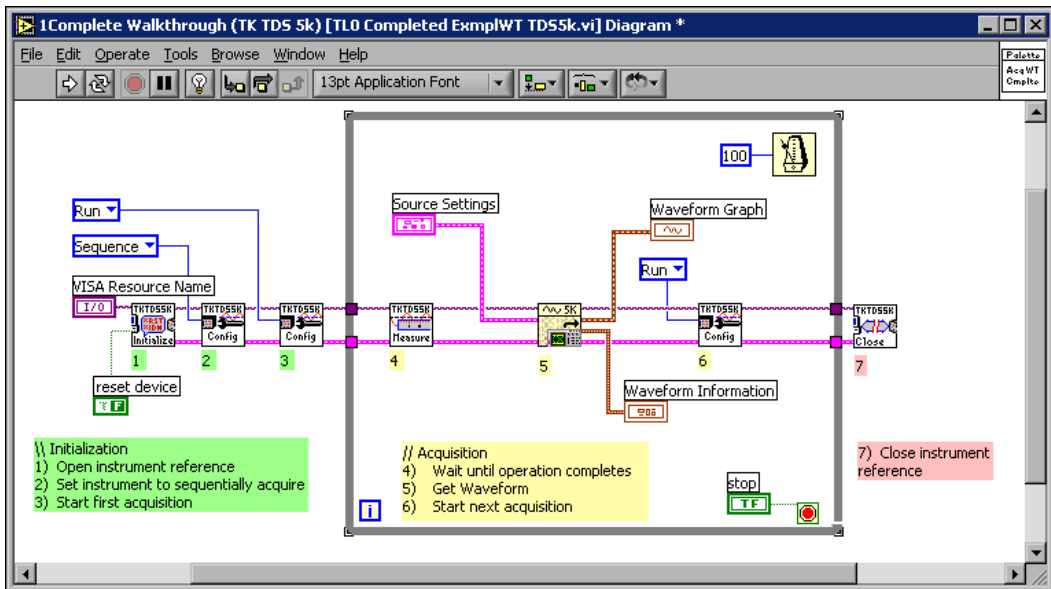

Figure 7. Wiring the Block Diagram
15. Wire the **Waveform Information** output of the Simple Get Waveform VI to the **Waveform Information** indicator. The wires pass the waveform, scaling, and offset information to front panel indicators that display the information graphically. The block diagram should appear similar to Figure 7.